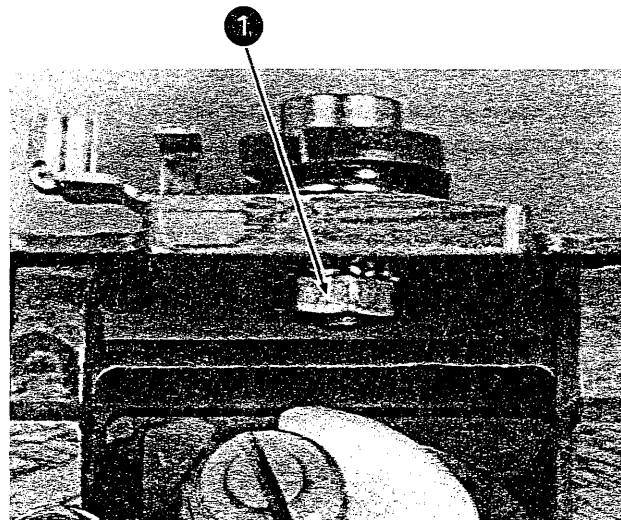

Figure 4-53. Carrier-Shoe Removal (Steps 4 and 5)
5. Remove the nut from the carrier-shoe stud and remove the shoe (No. 1, Figure 4-53).